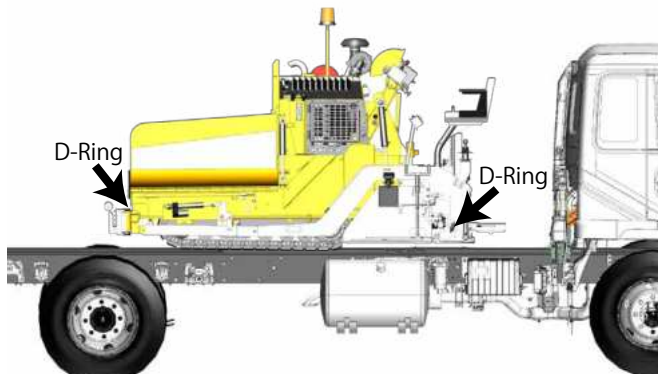

Figure 4-60. Tie-Down D-Ring Locations
2. Attach tie-down chains to the front weight block and the D-Rings in front of the torque hubs. **(Figure 4-60).**